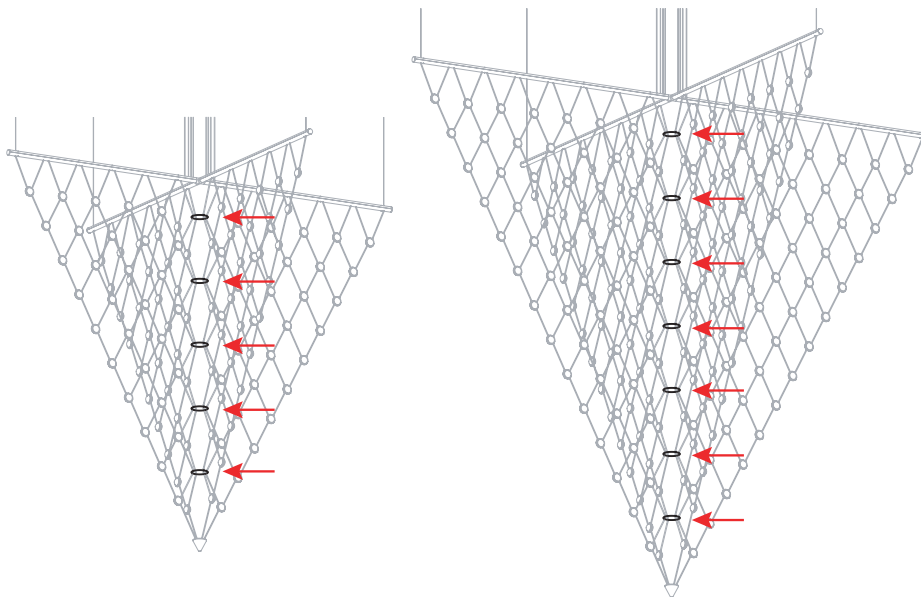

Fig. 5: Ring Positions
9. Following Fig. 4, create a gap in the retaining rings by pressing ends in opposite directions, then pass the gap over each of the luminaire triangle connection points (Fig. 5).